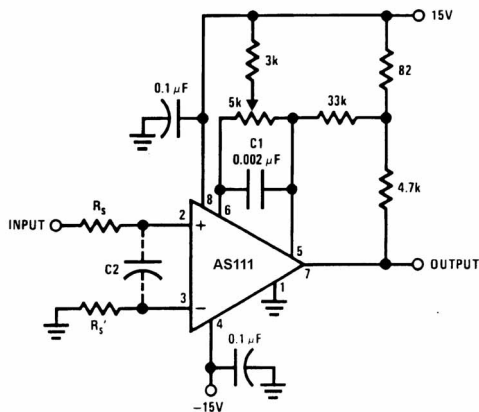

FIGURE 1. Improved Positive Feedback
However, when the input signal is a voltage ramp or a slow sine wave, or if the signal source impedance is high (1 μ W to 100 μ W), the comparator may burst into oscillation near the crossing-point. This is due to the high gain and wide bandwidth of comparators like the AS111. To avoid oscillation or instability in such a usage, several precautions are recommended, as shown in Figure 1 below.
should be shorted together. If they are connected to a trim-pot, a 0.01 μ F capacitor C1 between pins 5 and 6 will minimize the susceptibility to AC coupling. A smaller capacitor is used if pin 5 is used for positive feedback as in Figure 1.
7. When both inputs of the AS111 are connected to active signals, or if a high-impedance signal is driving the positive input of the AS111 so that positive feedback would be disruptive, the circuit of Figure 1 is ideal. The positive feedback is to pin 5 (one of the offset adjustment pins). It is sufficient to cause 1 to 2 mV hysteresis and sharp transitions with input triangle waves from a few Hz to hundreds of kHz. The positive-feedback signal across the 82Ω resistor swings 240 mV below the positive supply. This signal is centered around the nominal voltage at pin 5, so this feedback does not add to the V_{OS} of the comparator. As much as 8 mV of V_{OS} can be trimmed out, using the $5\text{ k}\Omega$ pot and $3\text{ k}\Omega$ resistor as shown.